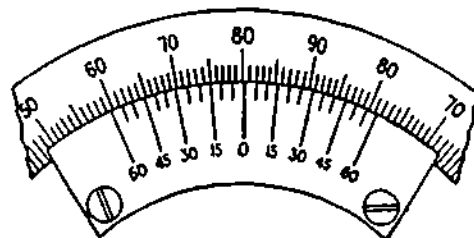

Figure 2-64. Angular Vernier Scale
**Example 2:** (see Figure 2-64)